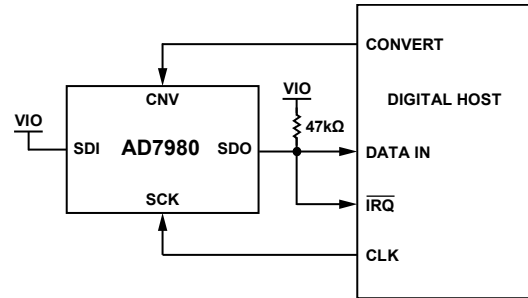
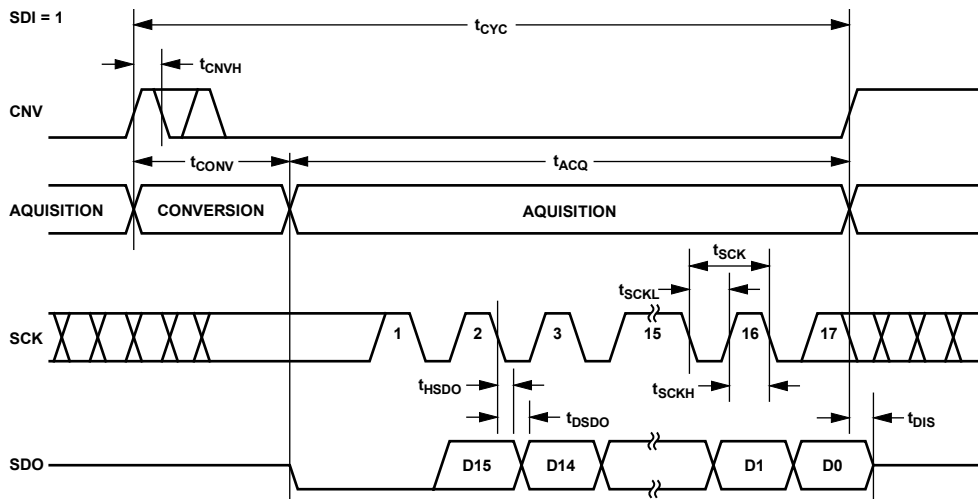
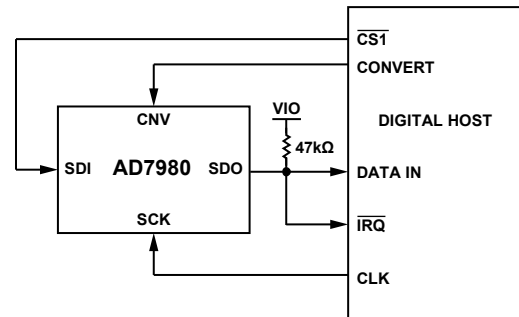
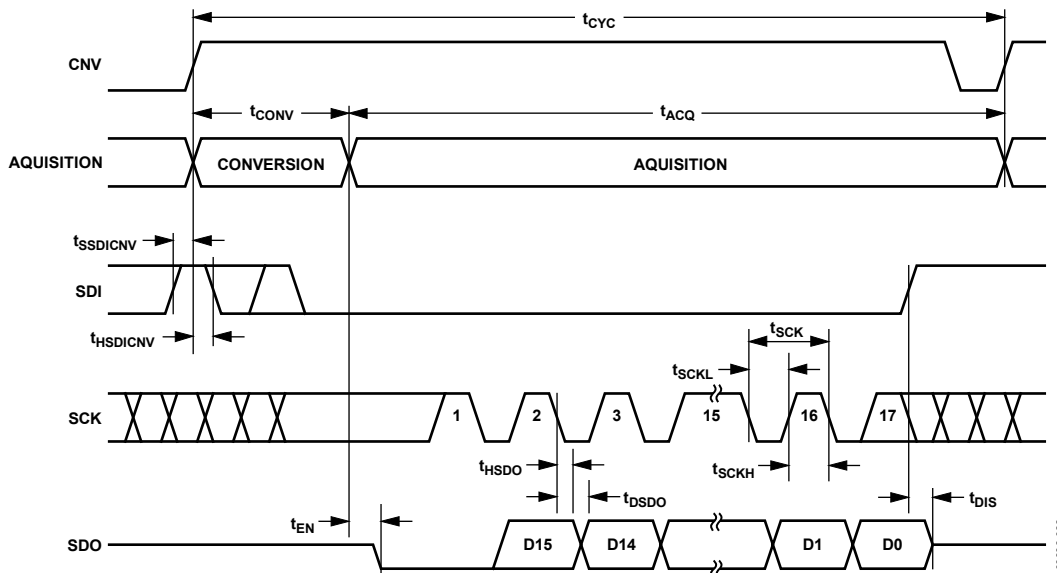

Figure 33. 3-Wire \overline{CS} Mode with Busy Indicator Connection Diagram (SDI High)
Figure 34. 3-Wire \overline{CS} Mode with Busy Indicator Serial Interface Timing (SDI High)
Figure 37. 4-Wire CS Mode with Busy Indicator Connection Diagram
Figure 38. 4-Wire CS Mode with Busy Indicator Serial Interface Timing
- In the $\overline{\text{CS}}$ mode if CNV or SDI is low when the ADC conversion ends (see Figure 34 and Figure 38).
The connection diagram is shown in Figure 33, and the corresponding timing is given in Figure 34.
The connection diagram is shown in Figure 37, and the corresponding timing is given in Figure 38.